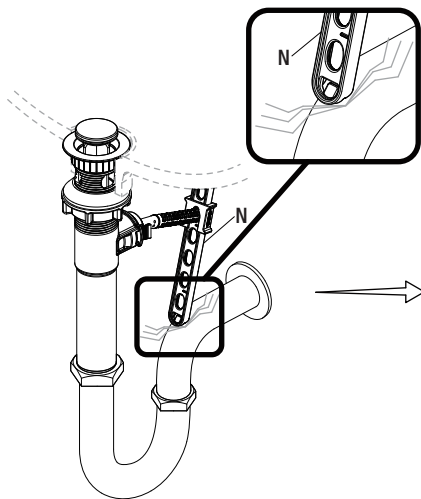

Fig. 1
- If the pop up lift rod strap (N) is interfering with your installation, as shown in Fig. 1, the lift rod strap (N) can be cut shorter.